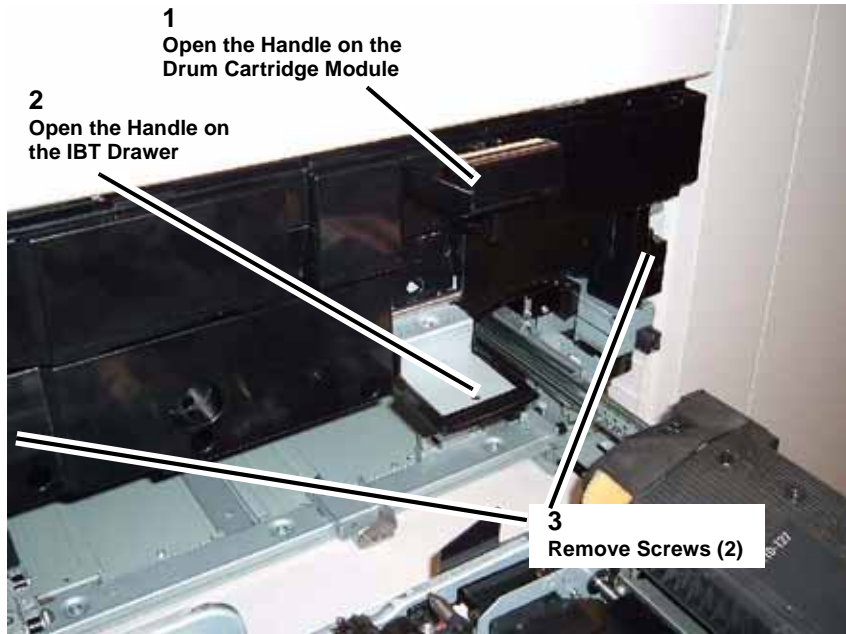

Figure 3 Opening the Handles
4. Open the Handles on the Drum Cartridge Module and the IBT Drawer (Figure 3).